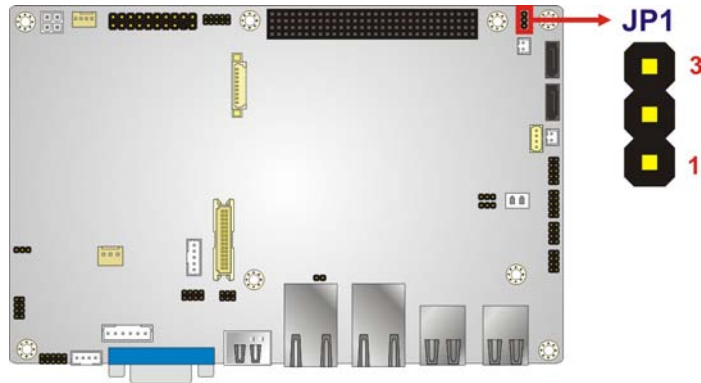

Figure 4-13: PCI-104 Power Select Jumper Location
Step 2: **Connect the Power Cable to the Motherboard.** Connect the 4-pin (2x2) Molex type power cable connector to the AT/ATX power connector on the motherboard. See Figure 4-13.